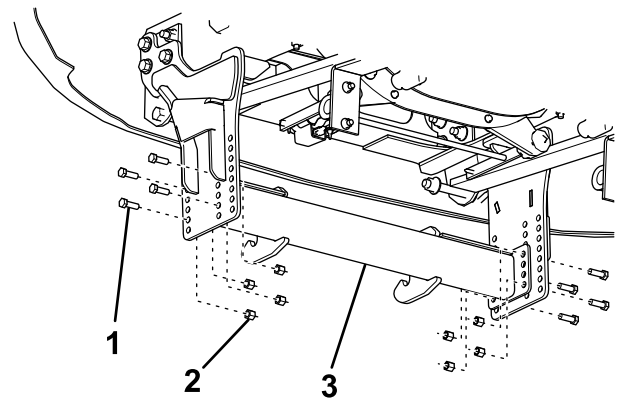

Figure 4
- For model LTA16255, loosely secure the pushbeam to the sideplates using 4 bolts (1/2 x 1-1/2 inches) and locknuts (Figure 4).